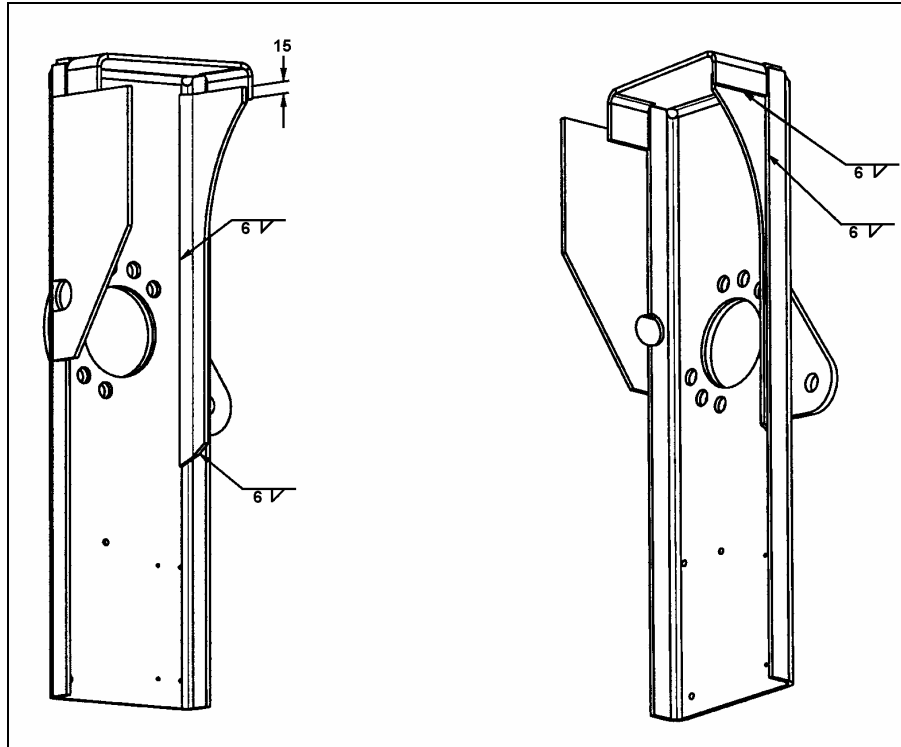

FIGURE 2
7. Using a grinder, clean the seating surfaces of the support to ensure adequate seating of the reinforcement part. Seat reinforcement part on support as per figure 2 and hold with a C-clamp "Vise-grip".
8. To perform welding, refer to figure 2 and welding specifications indicated in paragraph: **Steel – Steel Welding.**